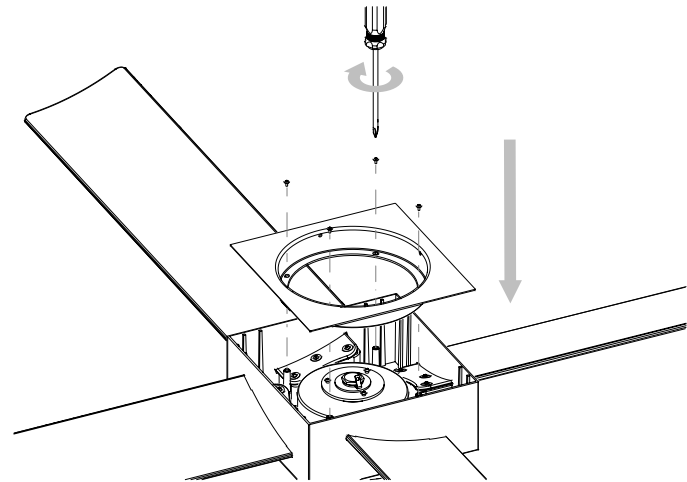

FIG.8
3. 3. Secure the lower housing as shown using the 4 screws provided (**FIG.8**).